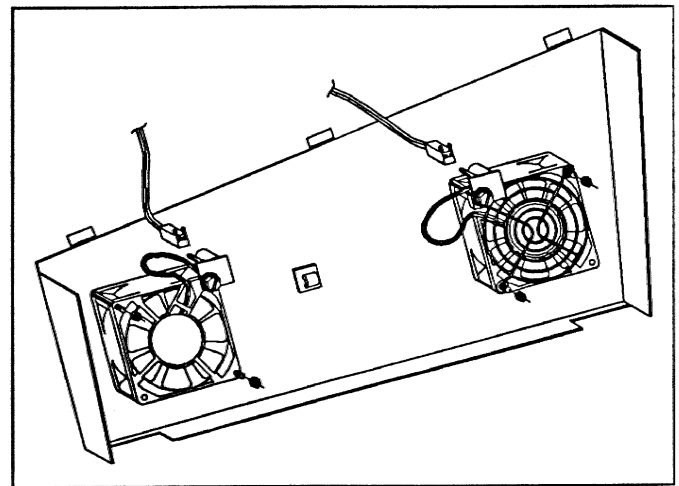

FIGURE 18-2. Fan Removal
c) Remove the two hex nuts which secure the fan to the side panel. See Figure 18-2.